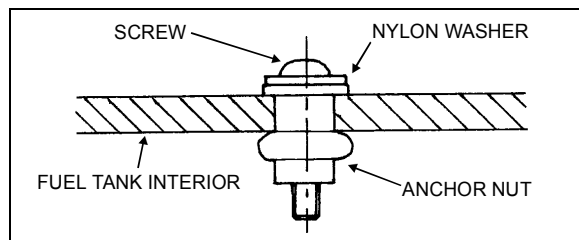

FIGURE 12: FUEL TANK REPAIR 03014
5. Place assembly in drill hole. Tighten screw by 10 complete turns. Refer to Fig. 12.